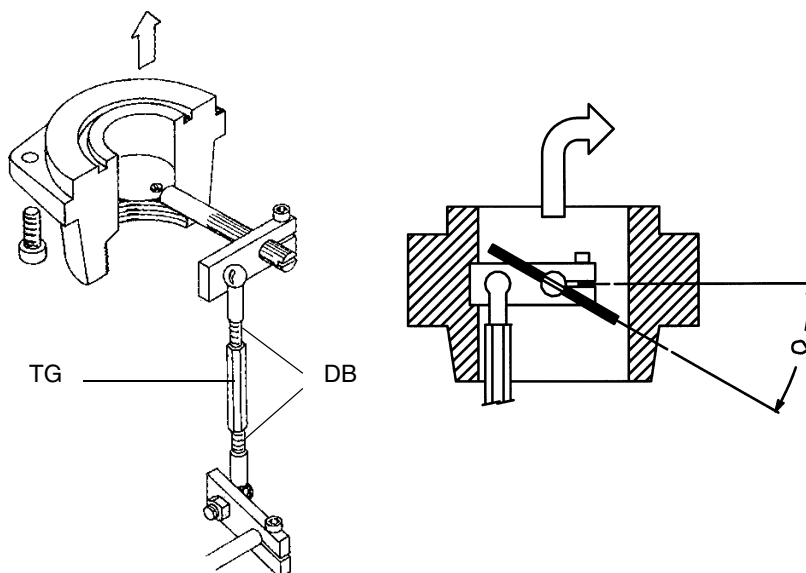

Fig. 27
- 9 In order to change the gas flow rate slacken the nuts **DB** (Fig. 27) and adjust the opening angle of the gas butterfly valve by rotating the rod **TG** (clockwise rotation increases gas flow, anticlockwise rotation decreases it). The mark on the butterfly valve shaft shows the measured opening degree of the valve regarding the horizontal axis (Fig. 27).